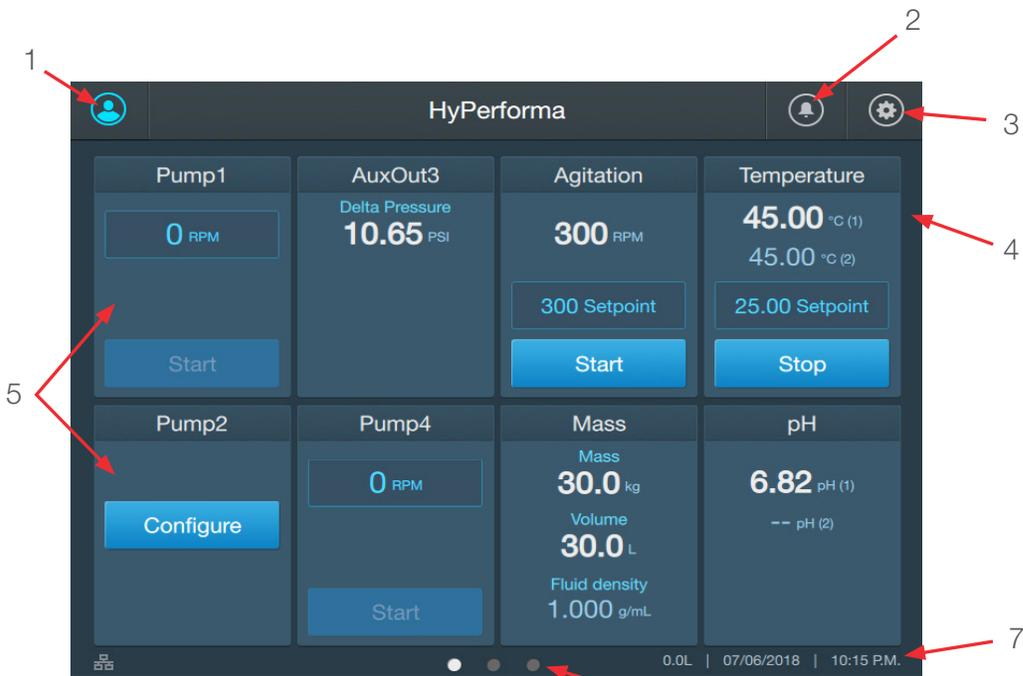

Figure 10. Sample Touchscreen Console home screen
Figure 10 on the following page shows an example of a configured Touchscreen Console home screen. Each page of the home screen is comprised of “modules,” which provide various functionality, such as measuring temperature, filling the S.U.M. with liquid, and controlling agitation speeds. The following numbered list provides more information about the features of the home screen.
- Flyout menu bar (not visible in Figure 10):** Shows active modules. Touching the module name in the flyout menu will open the active module.